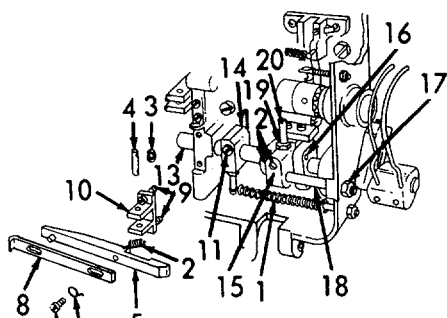

Figure 6-158. Stopping Mechanism, Removal.
- (9) Refer to Figure 6-158. Remove spring (1), and spring (2).
- (10) Remove C-ring (3), pin (4), and stop tripper holder (5).
- (11) Index mark tripper (8) in relation to holder (5) before removing screw (6), clip (7), and motion kick-off tripper (8).
- (12) Remove two screws (9) and bracket (10).
- (13) Loosen setscrews (11) and (12).
- (14) Remove shaft (13).
- (15) Remove stop shaft block (14), stop shaft guide block (15), and felt washer (16).
- (16) Remove nut (17) and shaft (18).
- (17) Remove nut (19) and stud (20).